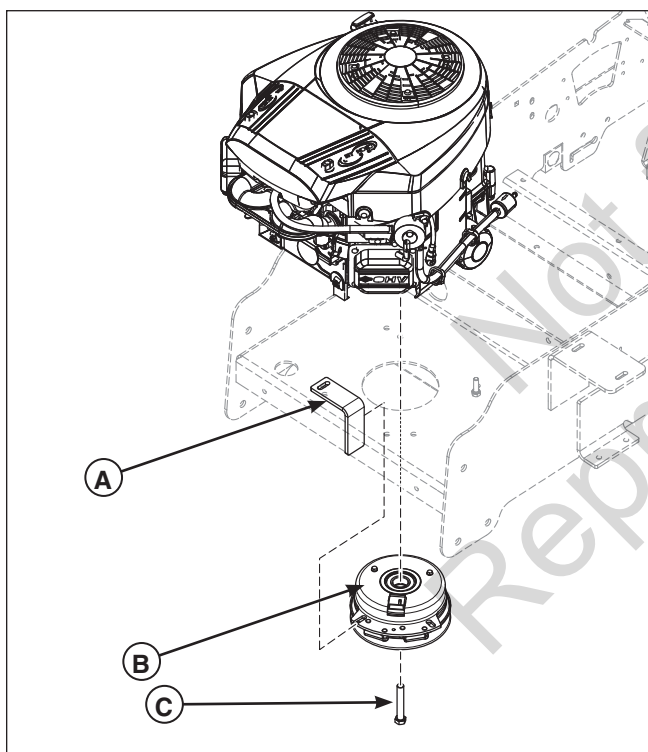

Figure 43. Removing the PTO Clutch
3. Loosen and remove the crankshaft bolt (C, Figure 43) and the PTO clutch (B) from the engine crankshaft.
6. Reinstall the spring anchor eyebolt (G) into the anchor tab and loosely fasten the nut. Adjust the anchor eyebolt until a measurement of 5-7/8" (14.92 cm) is achieved from the outside of the spring hooks. Tighten nut.
**NOTE:** Make sure that the slot in the PTO clutch lines up with the PTO clutch mounting tab (A, Figure 43) underneath the engine deck.